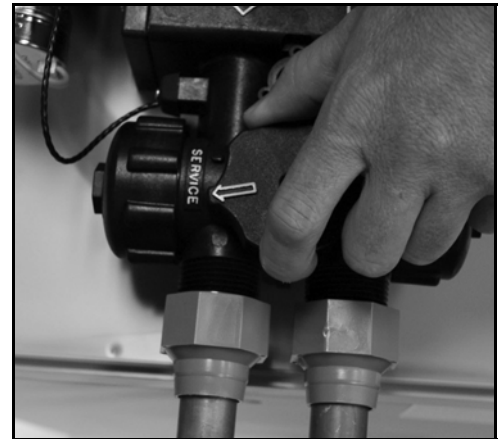

Figure 7: Service Position
6. Place the appliance in the Service position to slowly fill the media tank. (See Figure 7.)
- A. Ensure that the appliance is in the Service position. See Figure 7.